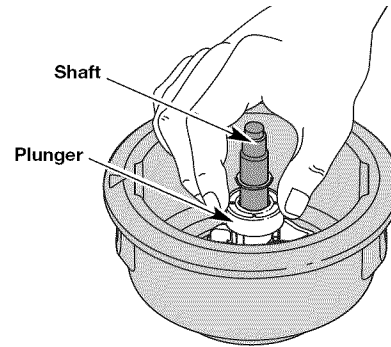

Fig. 20
5. Clean the shaft and the inner surface of the outer spool. To clean the shaft underneath the plunger, press down on the plunger (Fig. 20). Remove any dirt or debris from the shaft.